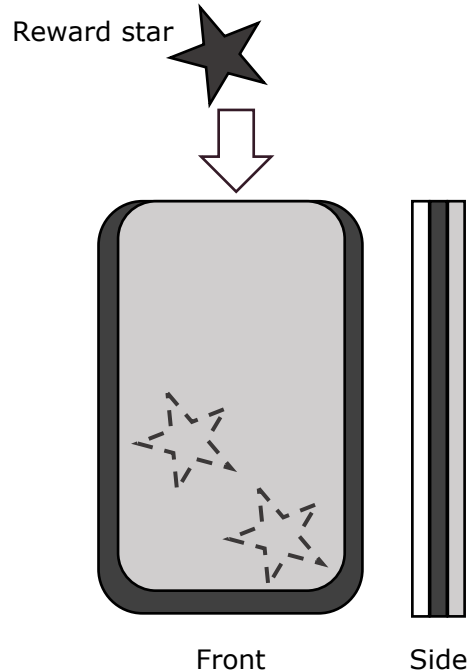

Figure 10
- b. Figure 10 shows the design of a reward system to be integrated with the toy cleaning station. The product consists of three layers of materials. The front part is transparent to show the reward stars. Children are given stars when they complete a cleaning task. These stars should slide easily in the middle section through the opening in the upper part of the product.